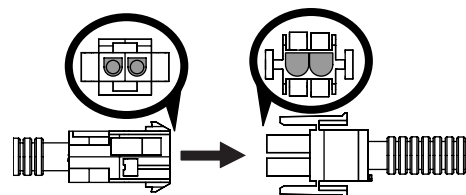

Figure 2-3
7. Connect the headlight harness/12V wiring harness to the main harness. Make sure the D-shape connectors align properly. See Figure 2-3.